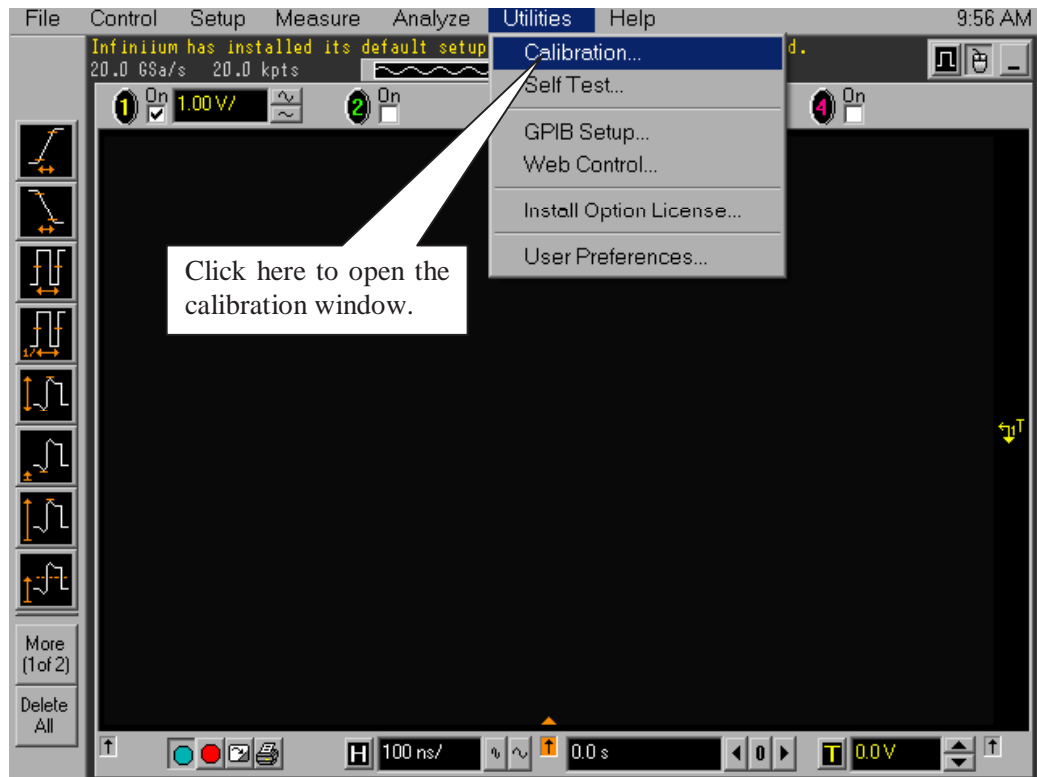

Figure 284 Accessing the Calibration Menu.
- 3 Referring to Figure 284 below, perform the following steps: